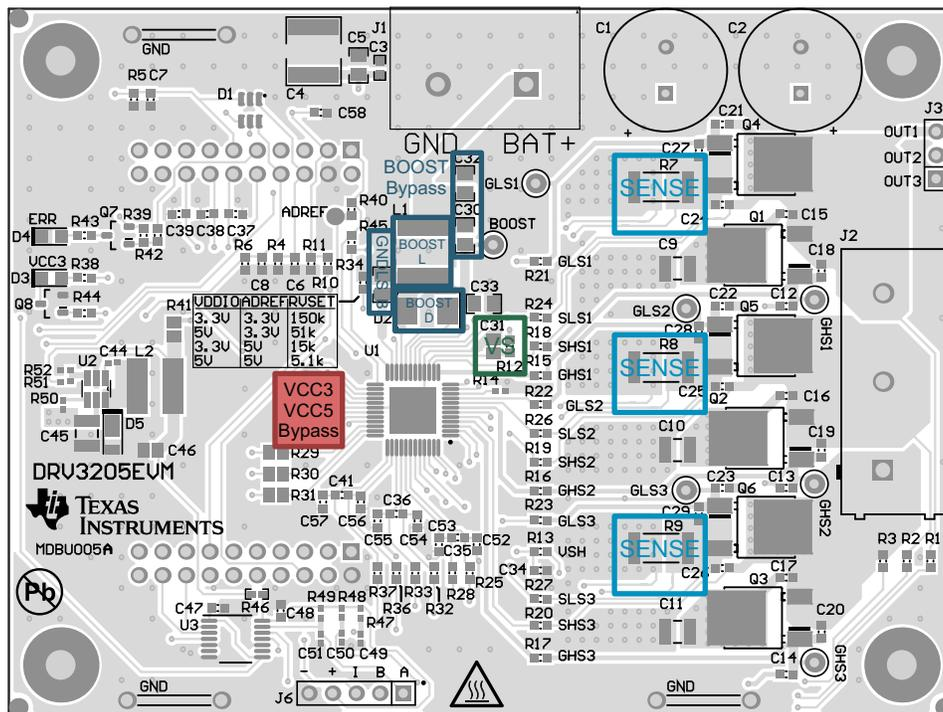

Figure 17. Layout Schematic
- The VS bypass capacitors should be placed close to the power supply terminals. See the VS box in Figure 17
- Place the VCC5 and VCC5 bypass capacitors close to the corresponding pins with a low impedance path to the ground plane pin (pin 16). See the VCC3 VCC5 bypass box in Figure 17.
- Keep the BOOST components close to the device and current loops small. See the BOOST boxes in Figure 17.
- Place the GNDLS\_B resistor close to the device pin. See the GNDLS\_B box in Figure 17.